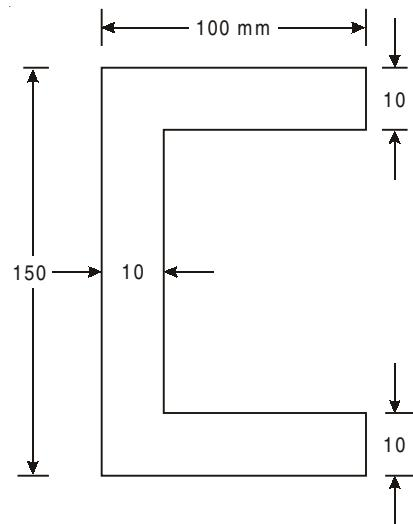

Fig. 8
51. Calculate the shear centre for the section shown in Fig. 8.